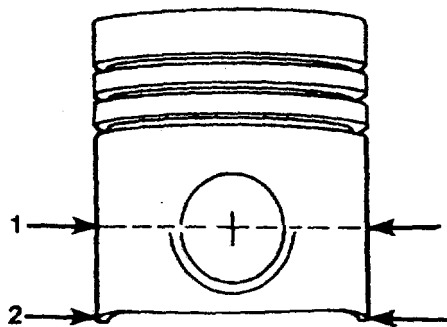

FIGURE 4-70. Piston Measurement.
- (9) Measure the inside diameter of the piston pin bore at several points. Replace piston if diameter is not between 2.3985 inch (60.922 mm) and 2.3989 inch (60.932 mm).
- (10) Measure the outside diameter of the piston at the centerline of the pin bore (1, FIG. 4-70) and at 1 inch (25 mm) from the bottom (2). Replace piston if measurements are not as follows: